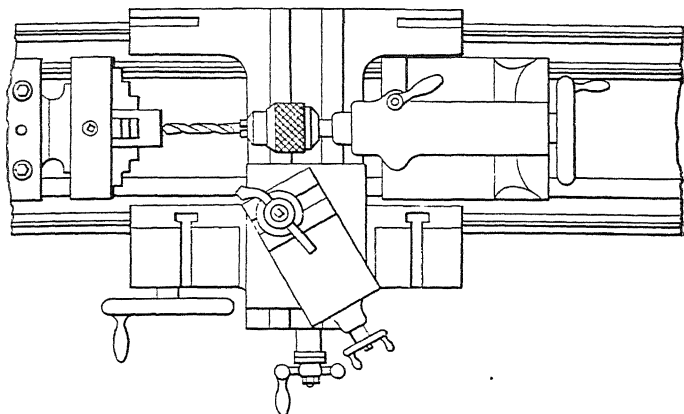

FIG. 144.—For holes under  $\frac{1}{2}$  in. use the drill chuck with a shank that fits the taper hole in the tailstock spindle.
**153. Use of Drill Chuck.**—Straight-shank drills and reamers up to  $\frac{1}{2}$  or  $\frac{5}{8}$  in. diameter may be held in a drill chuck, the taper shank of which fits the tailstock spindle hole. If a reamer is held in this way one must be careful to have it true in the chuck or it will ream the hole slightly taper. In any case have the shank of the chuck *tight* in the spindle or it may loosen and score both shank and spindle. This setup is shown in Fig. 144.